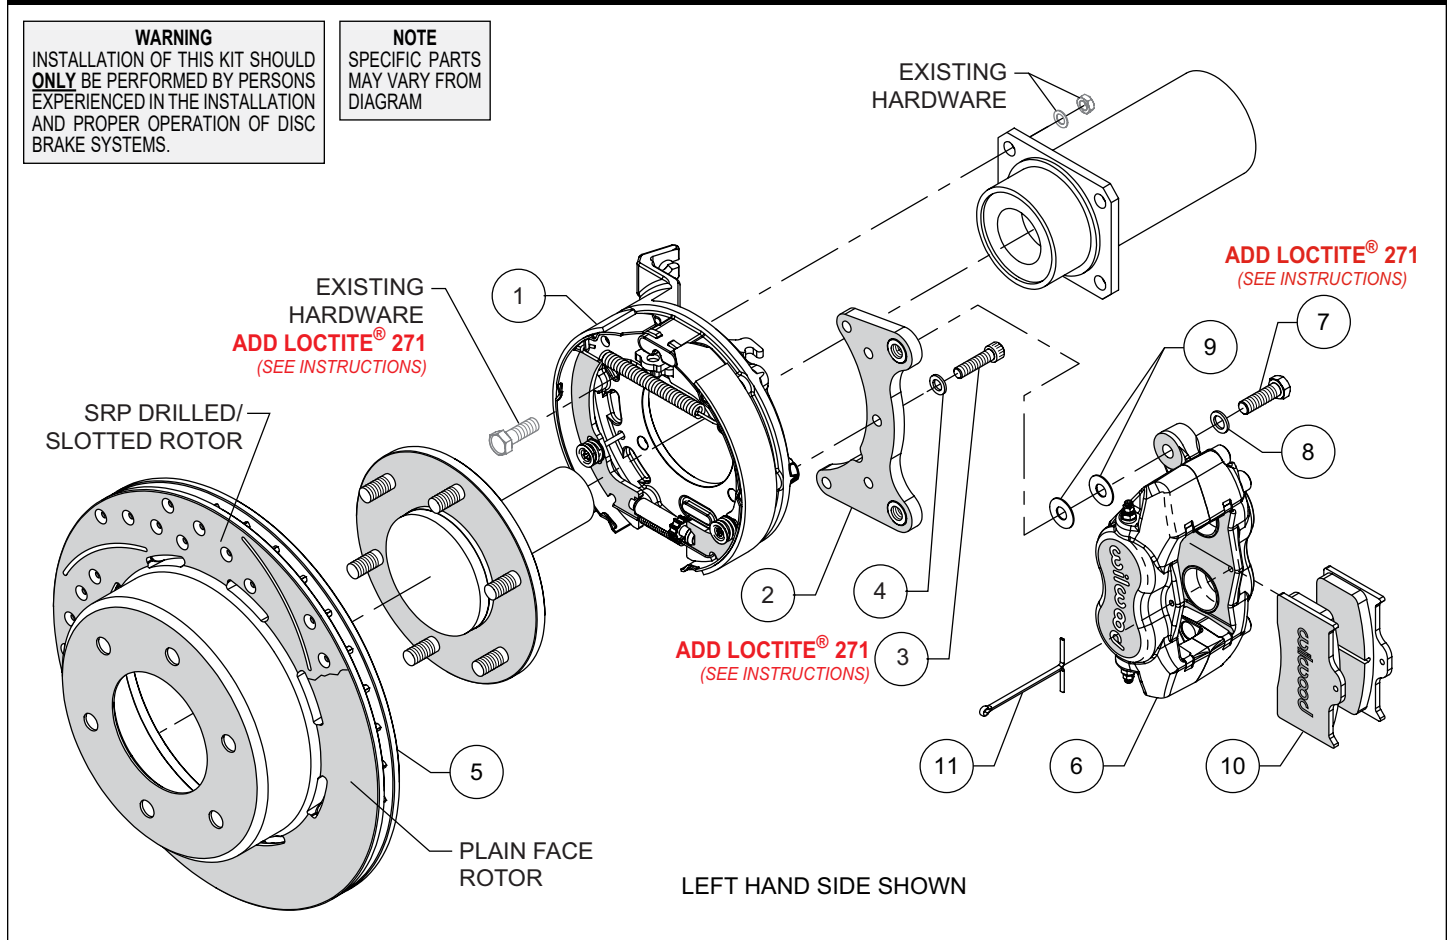
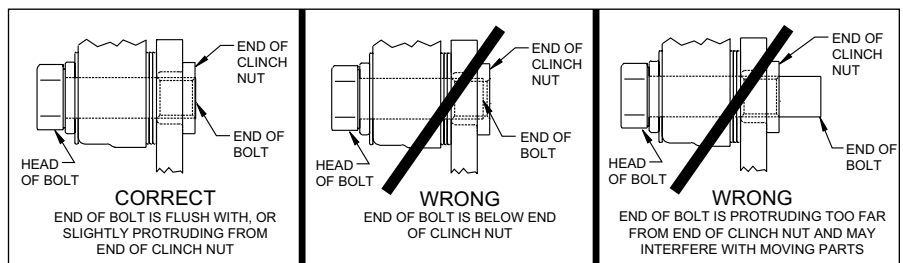

Figure 1. Typical Installation Configuration
Figure 4. Clinch Nut Engagement Diagram
NOTE: Numbers in parenthesis refer to the parts list and Figure 1 on the preceding pages.
CAUTION: All mounting bolts must fully engage clinch nuts. Be sure to check that all bolts are either flush or protruding through flanged side of clinch nut after shimming, Figure 4.
- Orient the parking brake assembly (1), as shown in Figure 1, and mount to the axle housing flange using the Original Equipment Manufacturer (OEM) bolts and nuts, Figure 1 and Photo 1. Ensure that the parking brake assembly backing plate fits flush against the axle housing flange. Apply red *Loctite*® 271 to the OEM bolt threads and torque to OEM specifications.
- Install the caliper mounting bracket (2) to the parking brake assembly (1) using bolts (3) and washers (4) as shown in Figure 1 and Photos 2 and 3. Apply red *Loctite*® 271 to the bolt threads and torque to 25 ft-lbs.
- Align the hole pattern in the rotor/hat with the stud pattern on the axle flange and slide into place, Figure 1. **NOTE:** The rotor/hat must fit flush against the axle flange or excessive rotor run out may result. Install three lug nuts (finger tight) to keep the rotor/hat assembly in place while continuing with the installation, Photo 4.
•**NOTE:** Please reference the caution statement at the beginning of the assembly instructions. Mount the caliper (6) onto the caliper mounting bracket (2) using bolts (7) and washers (8), as shown in Figure 1. Initially place two .035" thick shims (9) on each bolt between the caliper and the bracket, Photo 5. Temporarily tighten the mounting bolts and view the rotor (5) through the top opening of the caliper. The rotor should be centered in the caliper, Photo 6. If not, adjust by adding or subtracting shims (9) between the bracket and the caliper. Always use the same amount of shims on each of the two mounting bolts. **NOTE:** The end of each bolt must be flush with or slightly protruding from the head of the clinch nut, as shown in Figure 4. If necessary place spare shims between washer (8) and caliper mounting ear to achieve the proper clinch nut engagement. Once the caliper alignment and clinch nut engagement are correct, remove the bolts one at a time, apply red *Loctite*® 271 to bolt threads, and torque to 40 ft-lb.
•Install the disc brake pads (10) into the caliper, with the friction material facing the rotor (5), Photo 7, and secure in place using the cotter pin (11), Photo 8.
•**NOTE:** Clevis and cable kits which attach to the parking brake assembly are not included in the Wilwood parking brake kit. Wilwood offers a generic style parking brake cable kit, P/N 330-9371 for this application which can be ordered separately from your local Wilwood dealer or by calling Wilwood customer service at (805) 388-1188.
•Remove the rubber grommet in the parking brake assembly (1) and adjust the parking brake shoes outward (using a drum shoe adjustment tool available at your local auto parts store) while spinning the rotor/hat until a slight drag is felt against the hat/drum. Replace the rubber grommet when finished. **NOTE:** Failure to adjust the brake shoes may cause damage to the parking brake components.